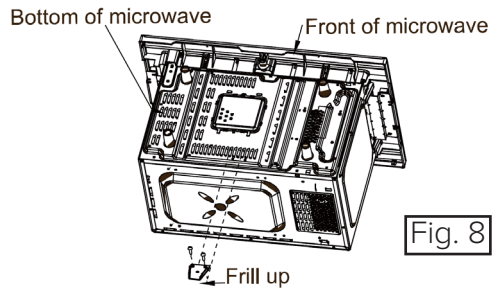

Fig. 8
3. Fix the steel plate (Fig. 3) to the lower plate of the microwave using 2 screws (Fig. 6) as shown in Fig. 8.